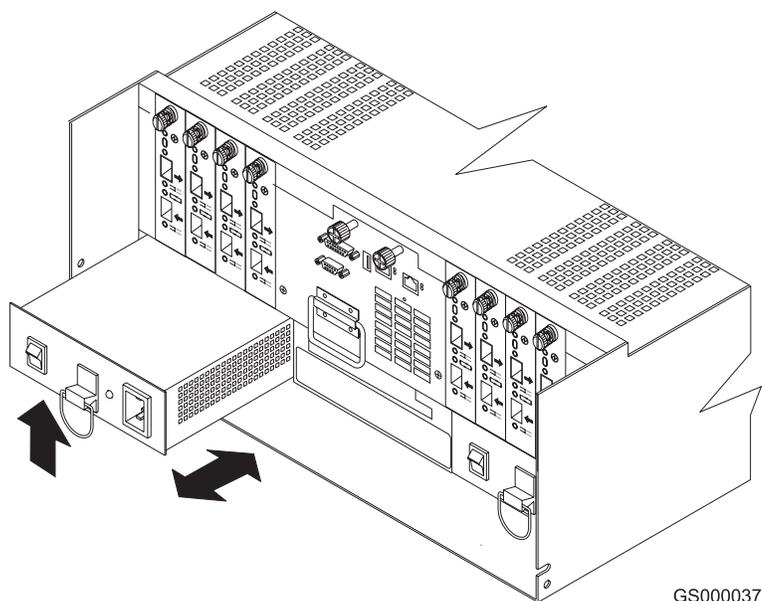

Figure 45. Removing and installing a power supply CRU
3. Using Figure 45 on page 59 as a guide, remove the failed power supply. Lift up and pull out on the pull handle to release the power supply. Then slide the unit out.
5. Install the new power supply, as shown in Figure 45. Using the pull handle, push the power supply into the slot until it locks into place.